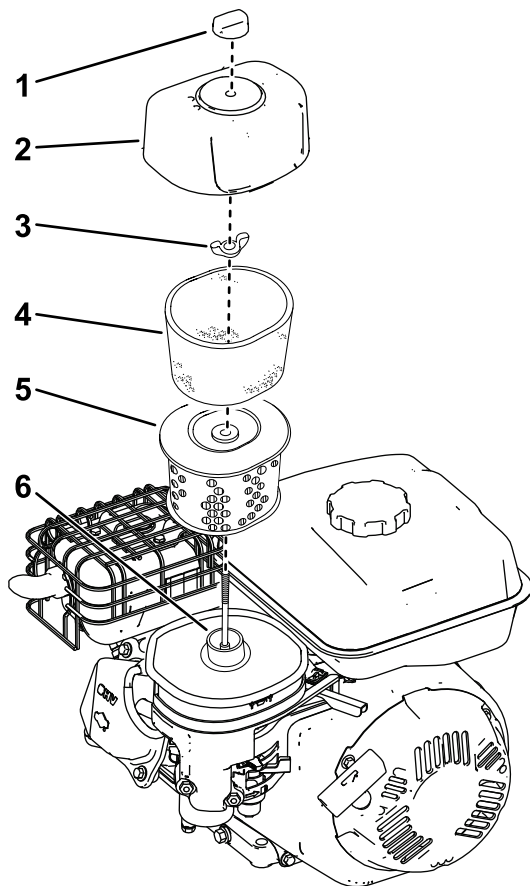

Figure 21
2. Remove the nut that secures the cover (Figure 21).
3. Remove the air-filter cover (Figure 21).